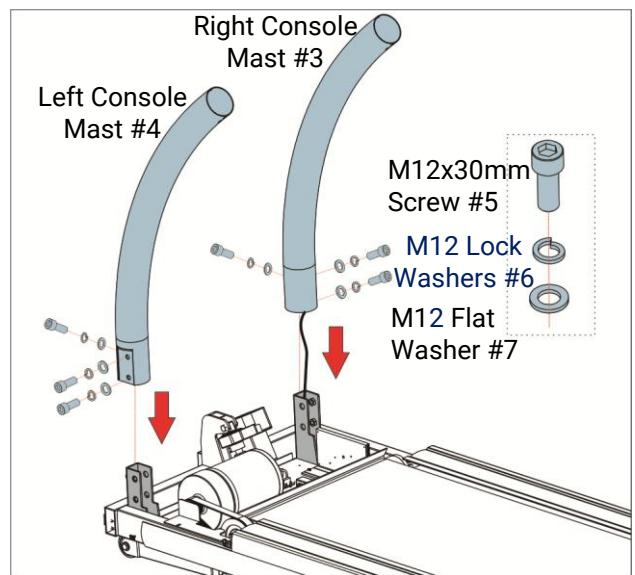

Fig 2.5-2B
- 2) Position the **Right & Left Console Masts #3 & #4** on the front corner of the Main Body. (Fig2.5-2B)
- 3) Tighten (6) **M12x30mm Screws#5** and (6) **M12 Lock Washers #6** and (6) **M12 Flat Washers #7** with 10 mm Allen Wrench. (Fig2.5-2B)